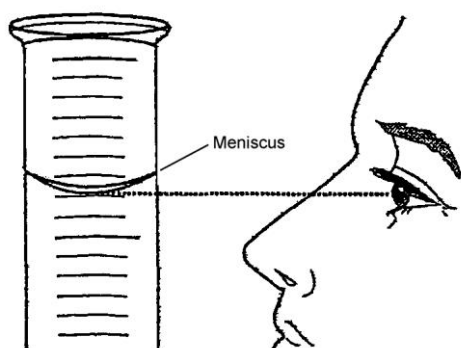

FIGURE 8. Reading liquid volume
1. The surface of liquids in glass cylinders is often curved. This curved surface is called the meniscus. Most of the liquids you will measure will have a concave meniscus. View the meniscus along the horizontal line of sight. See FIGURE 8. Do not try to make a reading looking up or down at the meniscus.